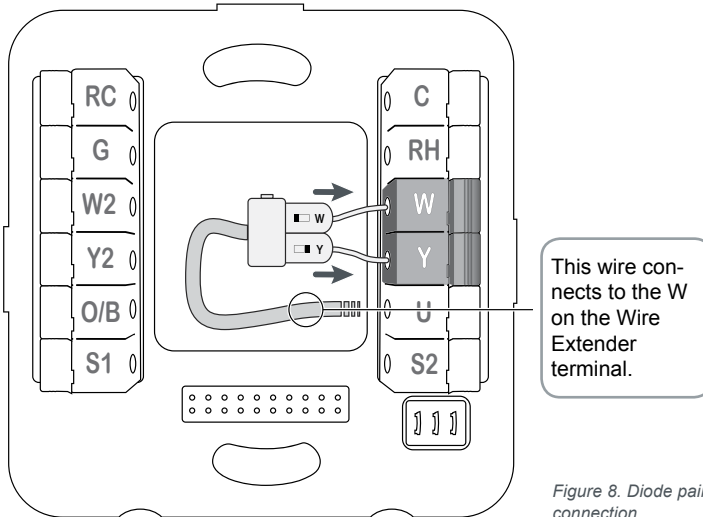

Figure 8. Diode pair connection.
2. Connect the diode pair to the Y and W terminals (Fig. 8). Ensure that the diode pair's Y terminal is connected to the thermostat's Y terminal and the diode pair's W terminal is connected to the thermostat's W terminal.